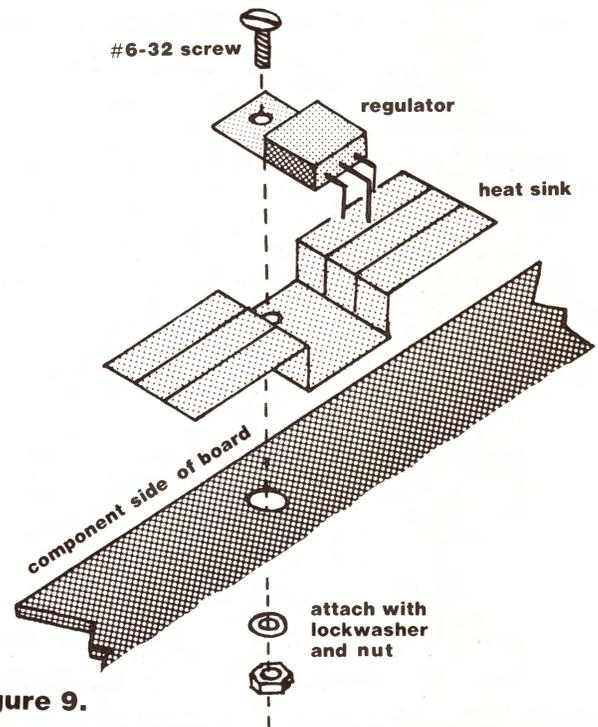

Figure 9.
- 4. Mount the three regulators and the regulator heat sinks in place. Referring to figure 9, observe that the heat sinks mount on top of the heat sinks, and then, the regulators mount on top of the heat sinks. If desired, a small dab of heat sink compound may be added between the regulator cases and heat sinks to improve thermal transfer from regulator to sink. Again referring to figure 9, bend all regulator leads as shown, then bolt the heat sink regulator assemblies into place using the provided nut, bolt, and lockwasher hardware. After these assemblies are in place, solder the regulator leads on the non-component side of the board.